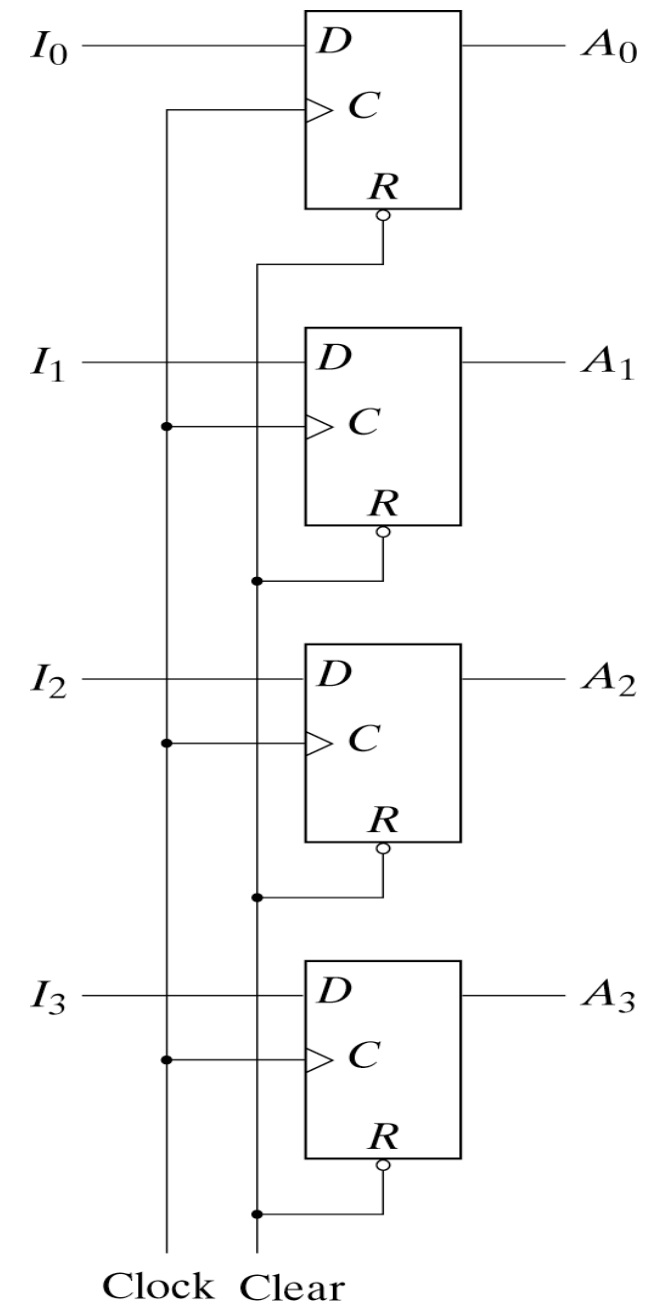

Fig. 6-1 4-Bit Register
- Fig 6-1 shows a 4-bit register with four D-type flip-flops. The information is loaded in parallel.
- A clock edge applied to C inputs of the register (Fig 6-1) will load all inputs in parallel